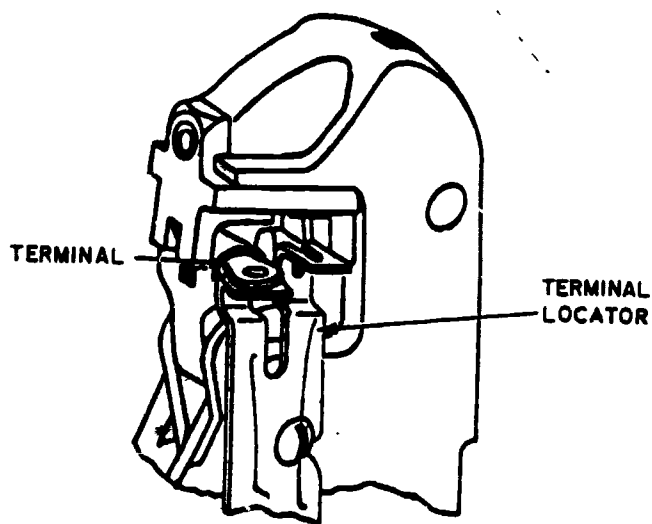

Figure 3.
c. Figure 3 shows the side of the crimping tool opposite the instruction plate side. On this side of the crimping tool is a terminal locator. This locator is used only when crimping a terminal lug. The locator acts as a stop for the lug. The locator can be turned out of the way. This is done when wire splice connections need to be crimped. The terminal is moved in the correct nest until the terminal barrel is against the locator (figure 3).
- d. Select a terminal lug. Put it, TONGUE first in the proper nest of the crimping tool. This is shown by the color code on the tool data plate. The barrel of the terminal lug should be up against the locator stop of the crimping tool (figure 3).